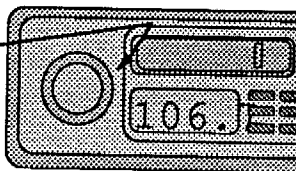

Figure 6
2. Adjust the volume control on your head unit (C/D, Cassette, etc.) to approximately 3 o'clock or 3/4 volume setting. (see Figure 6)